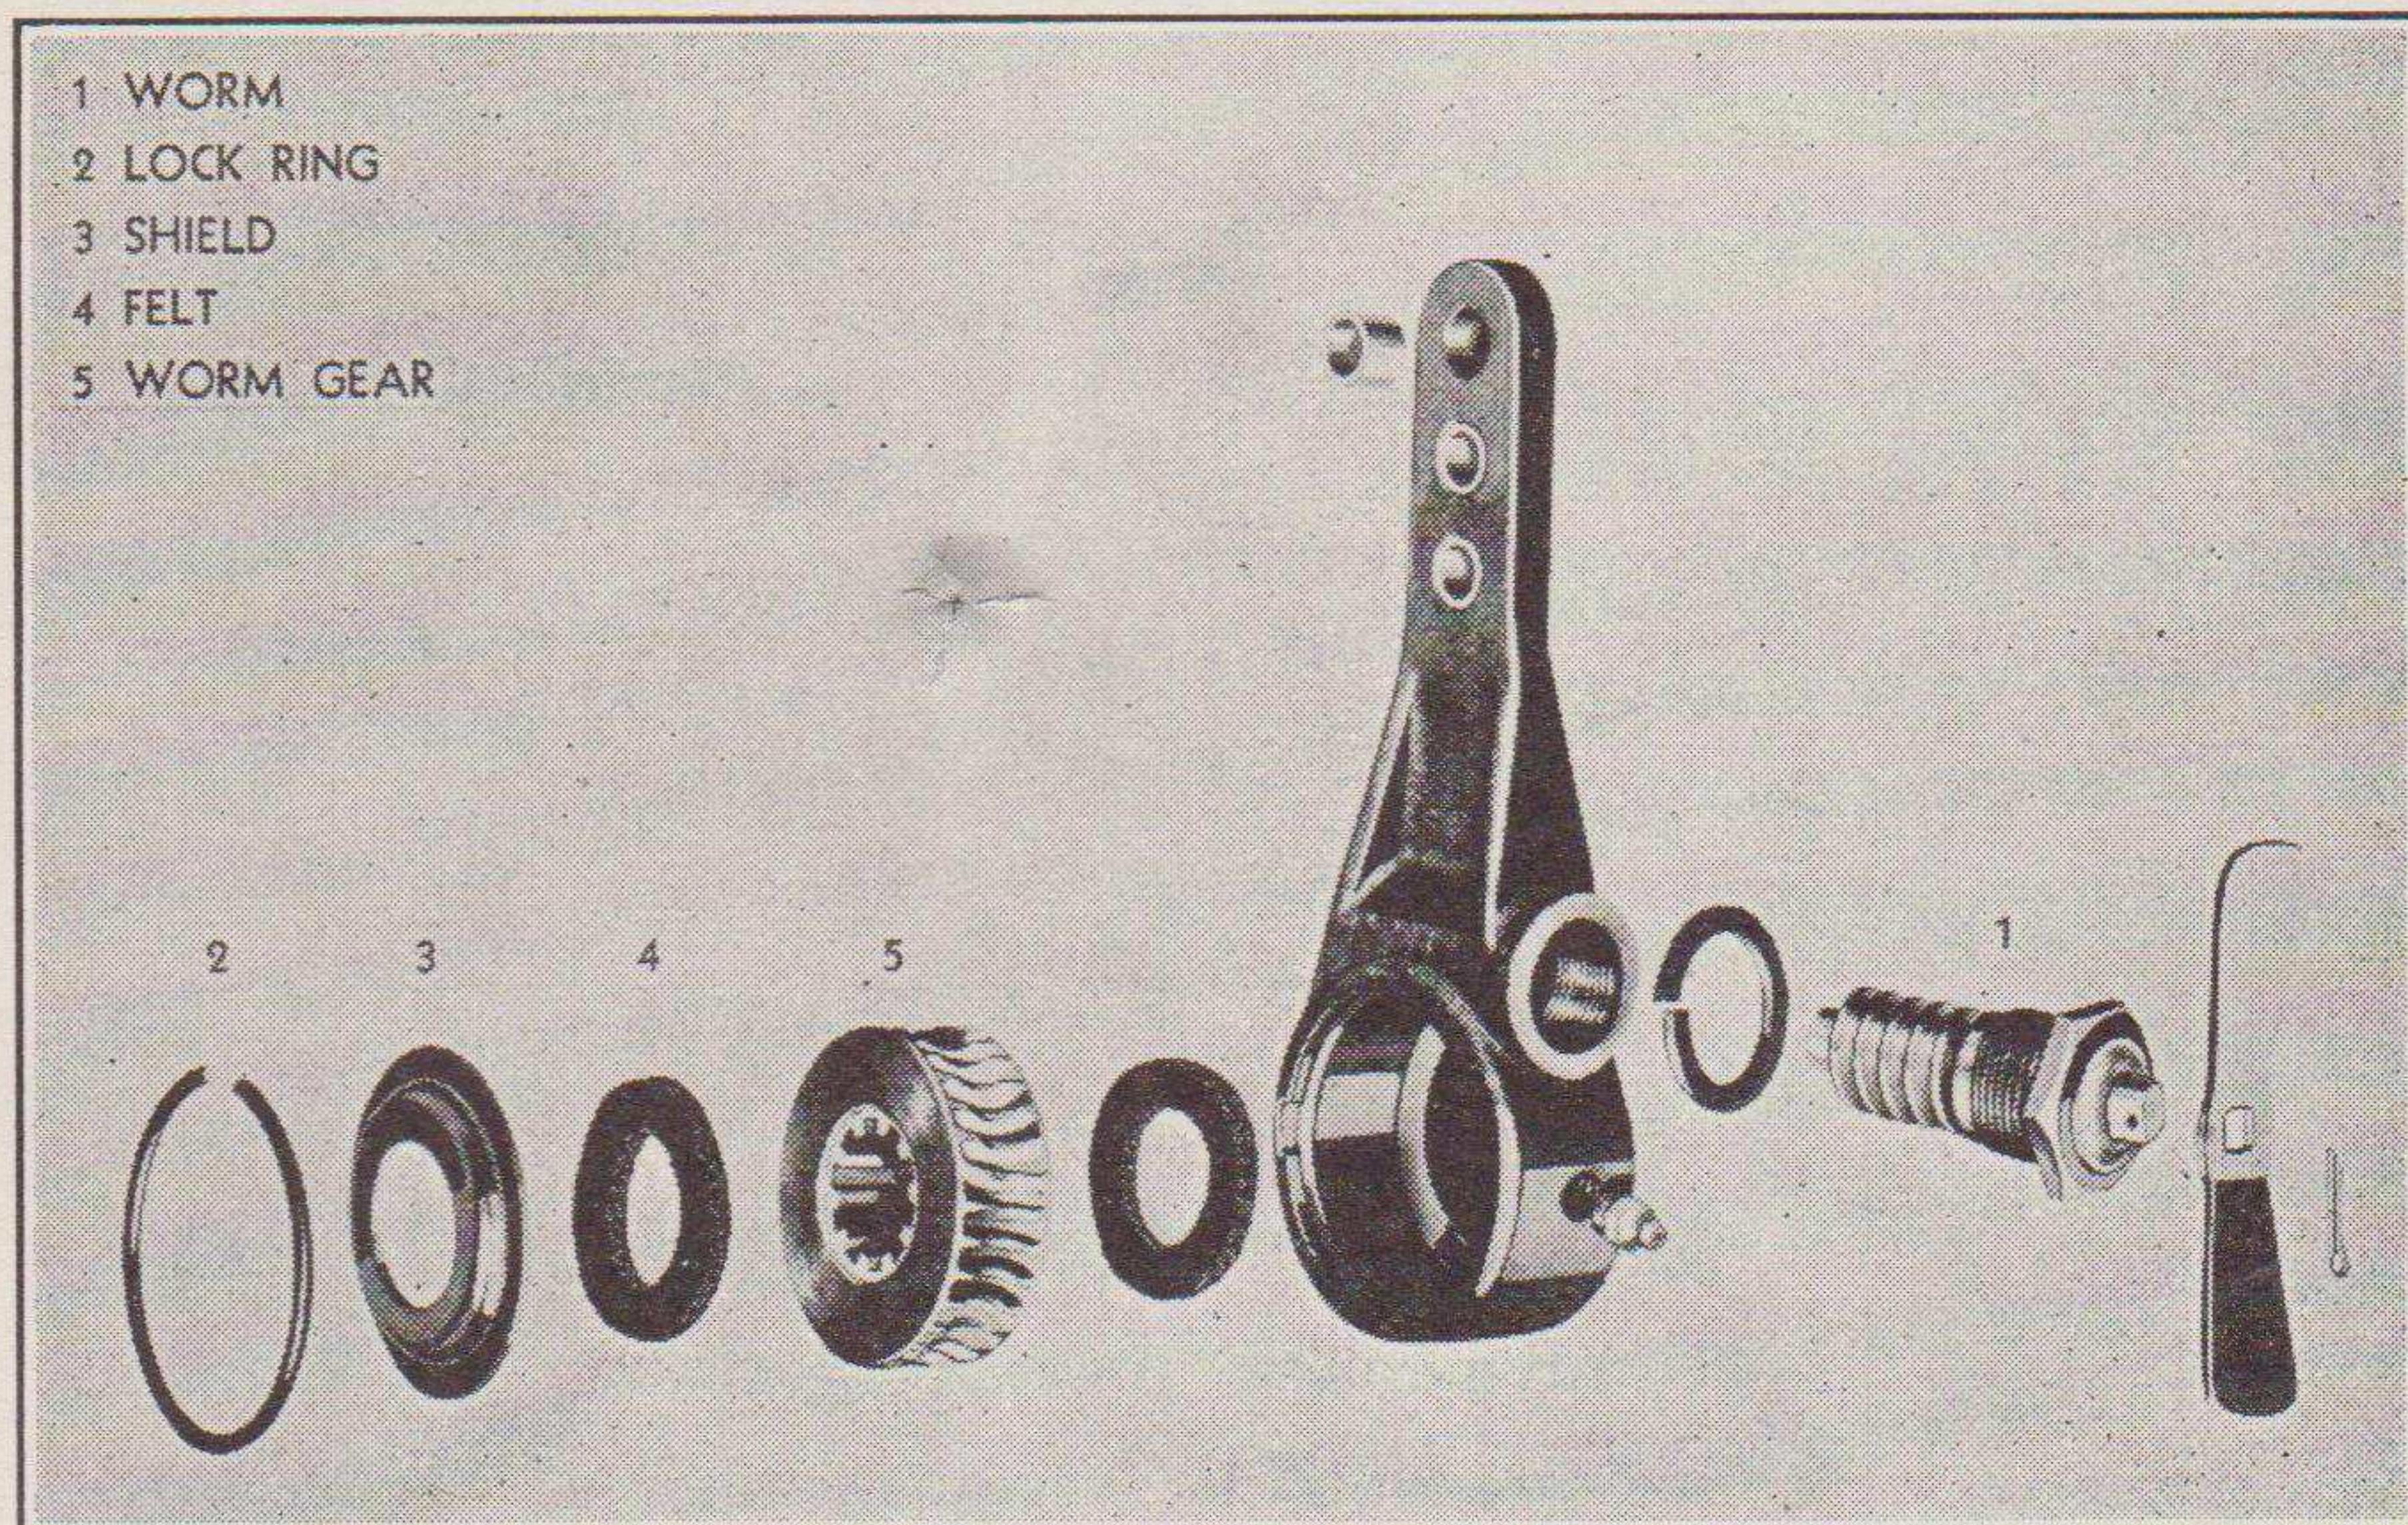

FIGURE 18. SLACK ADJUSTER ASSEMBLY
(1) Remove the two bearings in each mounting plate adapter either individually or both at one time by driving them out with a hammer.
(2) Place the new needle bearings into position and tap gently to start them evenly.
(3) Place pieces of flat wood against both brake adapter and bearing and squeeze the bearing into position with a C clamp. Bearings should be flush with the outer edges of the adapter.
(4) Inspect to make sure bearings do not cover lubricating hole.
c. Replacing Nice Ball Bearing in Cam Bracket.—(1) Remove the slack adjuster. (See Cam Replacement Instructions.) (Refer to Figure 18.)
(1) *Replacing Worm and Worm Gear* (Refer to Figure 18).